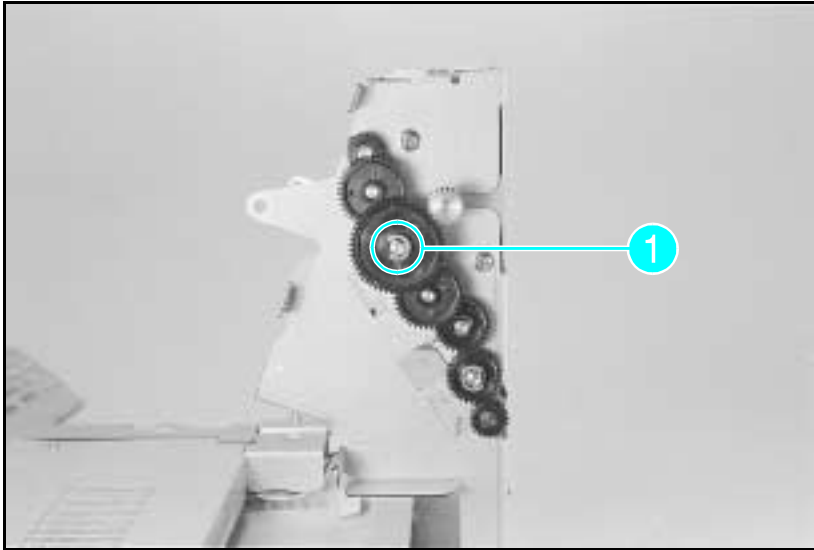

Figure A-15 Gears on Paper Roller
- 5** Remove the (1) E-clip from the gears on the shaft on the Power PCA side shown in Figure A-15, callout *1*.